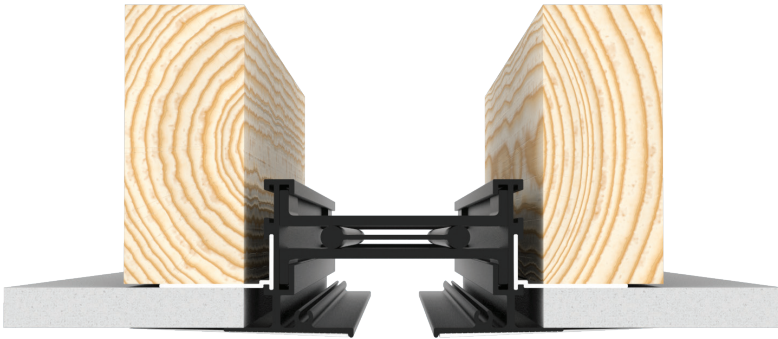
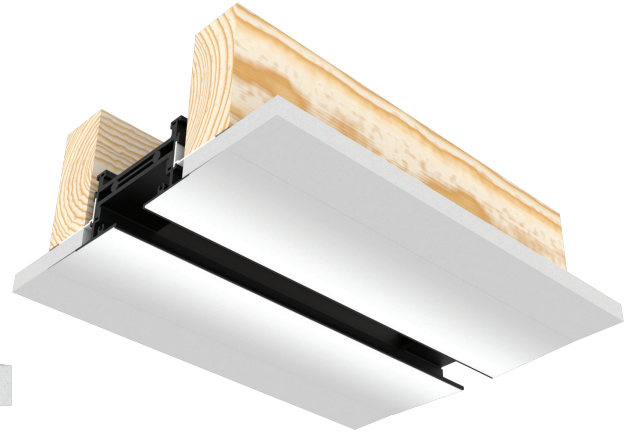

Figure 8 (Step 5A): Install Drywall – Exposed Face/Flange Border (A)
Figure 9 (Step 5A): Install Drywall – Tape and Spackle Border (C)
A. Lastly, install sheetrock into the slot created by the F Clip and the border of the XG-AFL diffuser (see Figure 8). If one or both borders have a tape and spackle border (“C”), see Figure 9.